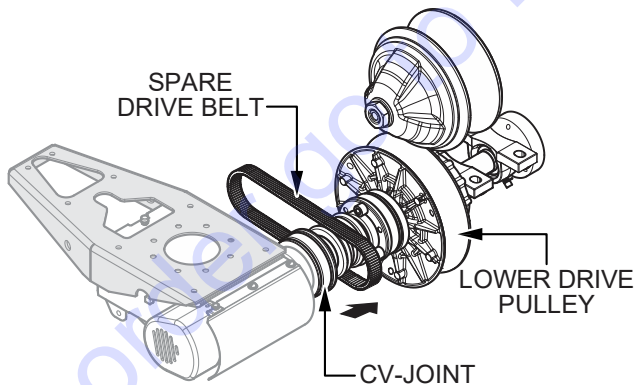

Figure 34. Spare Drive Belt Routing
4. Slide the spare drive belt over the CV-joint (Figure 34) and onto the lower drive pulley.